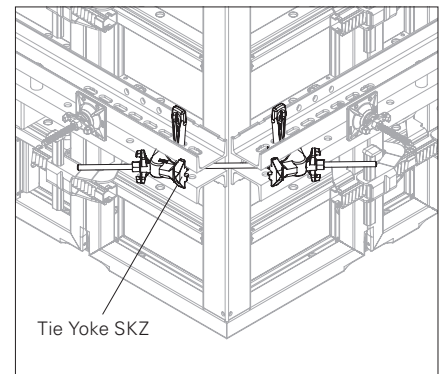

Fig. C3.07c
The outside corner can also be implemented with the Tie Yoke SKZ (article no. 024210) instead of the waler stop (86) and anchor tie yoke (87). For assembly, see the Instructions for Assembly and Use for VARIO GT 24 Girder Wall Formwork. (Fig. C3.07c)